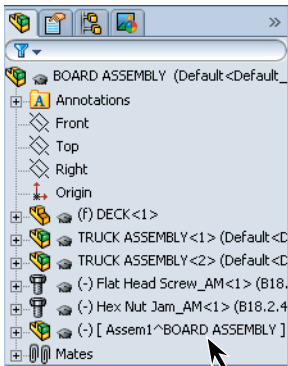

Fig. 11
Step 2. **Rename new Assem1** in the Feature Manager, **Fig. 11**. To rename, click **Assem1** name in Feature Manager and press **F2** on keyboard. Key-in **SCREW AND NUT ASSEMBLY**.